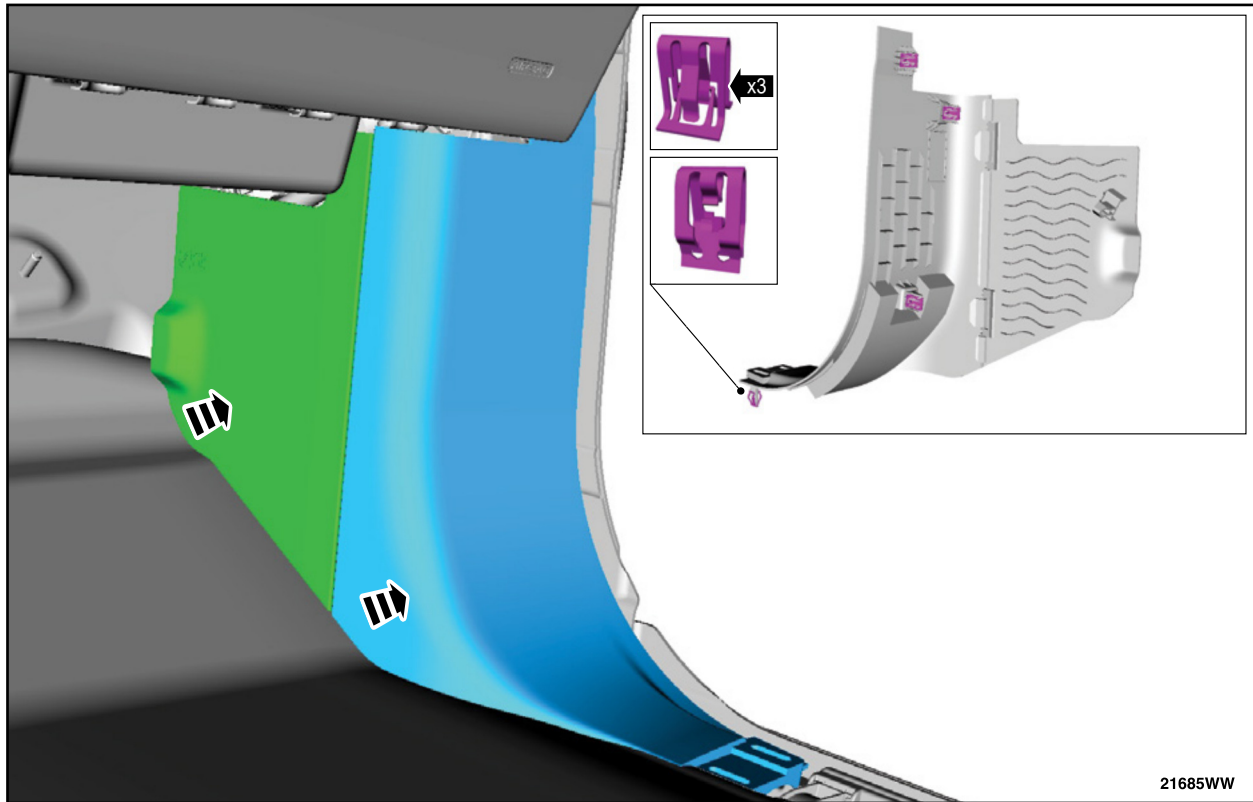

FIGURE 49
52. Install the RH lower cowl trim panel and the fuse panel cover. See Figure 49.